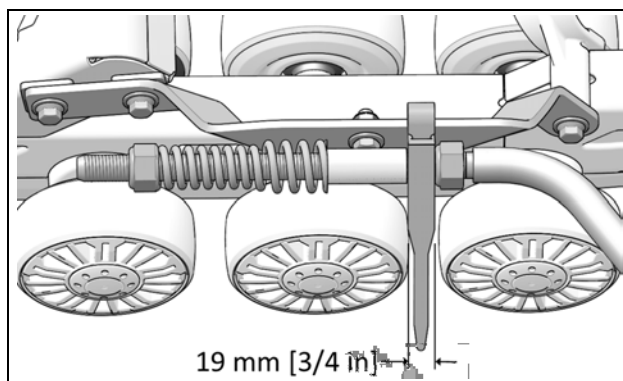

Figure 15
- IMPORTANT:** Double-check the 19 mm minimum distance between nut and stabilizing arm guide. Re-adjust as needed. See Figure 15.